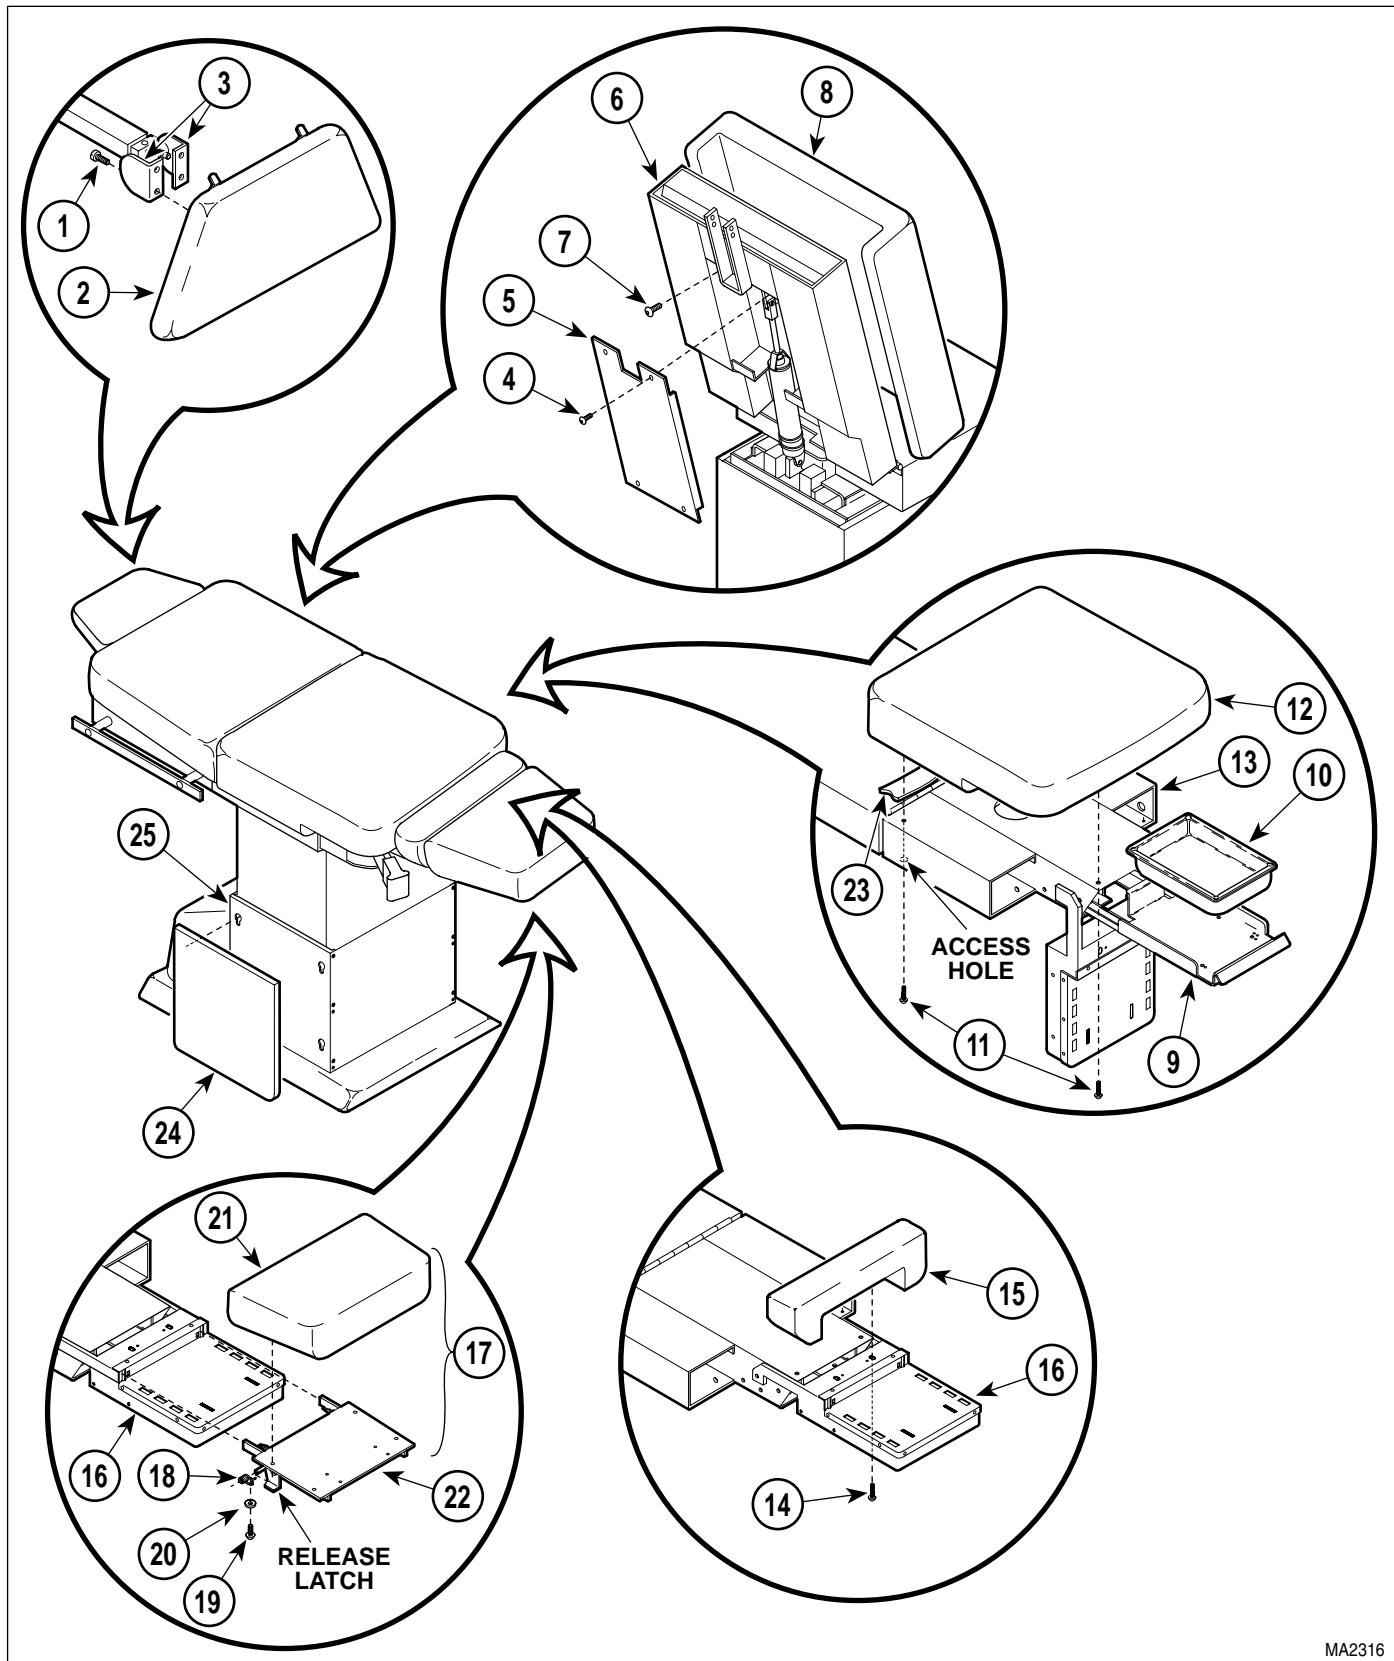

Figure 4-41. Upholstery Removal / Installation
- (1) Move table top to flat position.
- (2) Remove four screws (1, Figure 4-41) and upholstered headrest (2) from headboard pivot brackets (3).
- (3) Remove four screws (4) and back cover (5) from back weldment (6).
- (4) Remove four screws (7) and upholstered back section (8) from back weldment (6).
- (5) Lower FOOT DOWN function all the way down.
- (6) Pull open pan slide assembly (9). Remove treatment pan (10) from pan slide assembly (9). Close pan slide assembly to its fully stowed position.
- (7) Raise FOOT UP function all the way up.